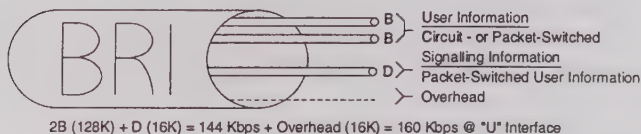

Figure 1. ISDN Basic Rate Interface
ISDN divides a standard 2-wire non-loaded telephone line into three Digital Channels capable of simultaneous Voice, Data, and low speed Video transmission. The three Channels are comprised of two Bearer (B) Channels, which carry Voice, Circuit-Switched, or Packet-Switched Data up to 64 Kbps, and a 16 Kbps Data (D) Channel for Packet-Switched Data and Signaling information. When combined, the two B-Channels and one D-Channel make up the Basic Rate (2B+D) Access. A Maintenance Channel and Framing information are added, and the result is a transmission rate of 160 Kbps at the "U" Interface. See Figure 1 below: